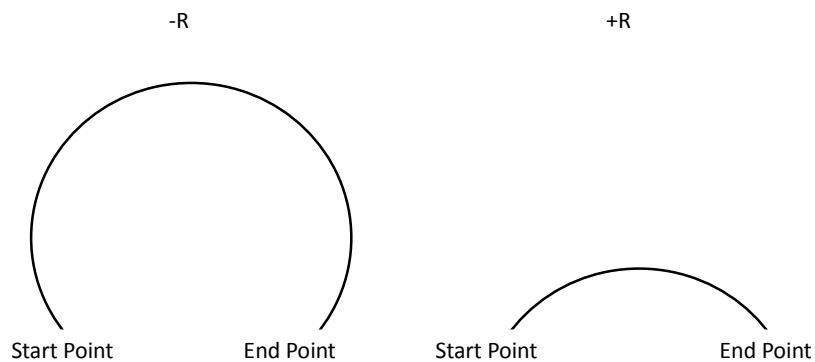

FIGURE 3 DIFFERENCE BETWEEN NEGATIVE AND POSITIVE VALUES FOR R
- To specify the radius, use R and input the actual radius of the desired arc, see Format 2. When an arc is created knowing only start and end points and a radius there are two possible solutions, an arc with a sweep less than 180° and one with sweep greater than 180° . The sign of the radius value, positive or negative, determines which arc will be cut, see figure 3. A positive value for R cuts an arc with sweep less than 180° . A negative value for R cuts an arc with sweep greater than 180° .